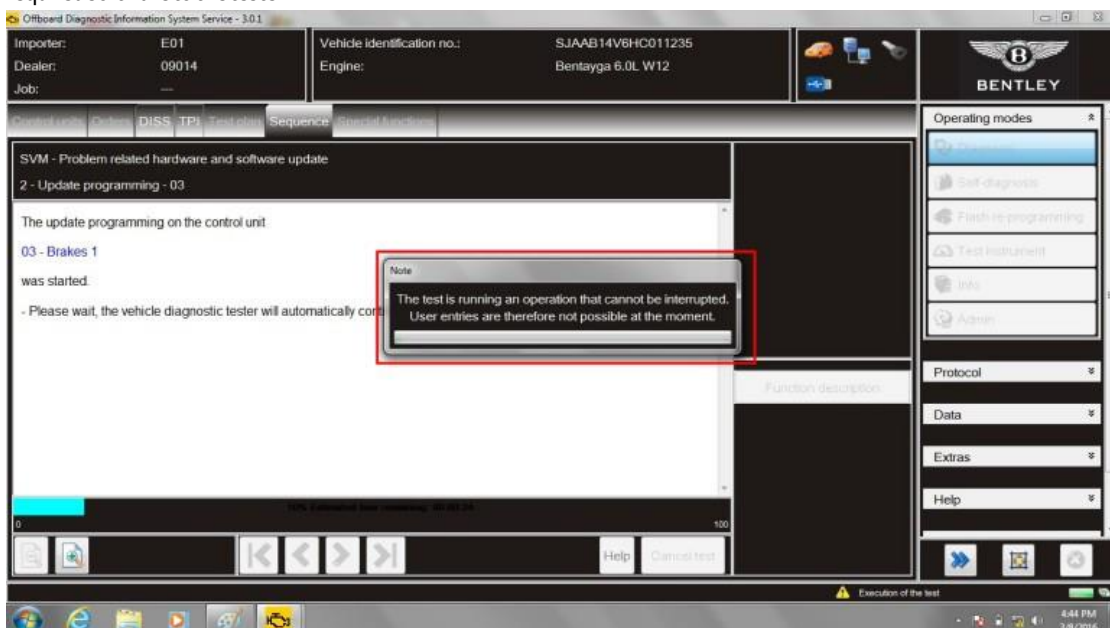

Figure 5
13. During update a progress bar will be displayed (see Figure 5)